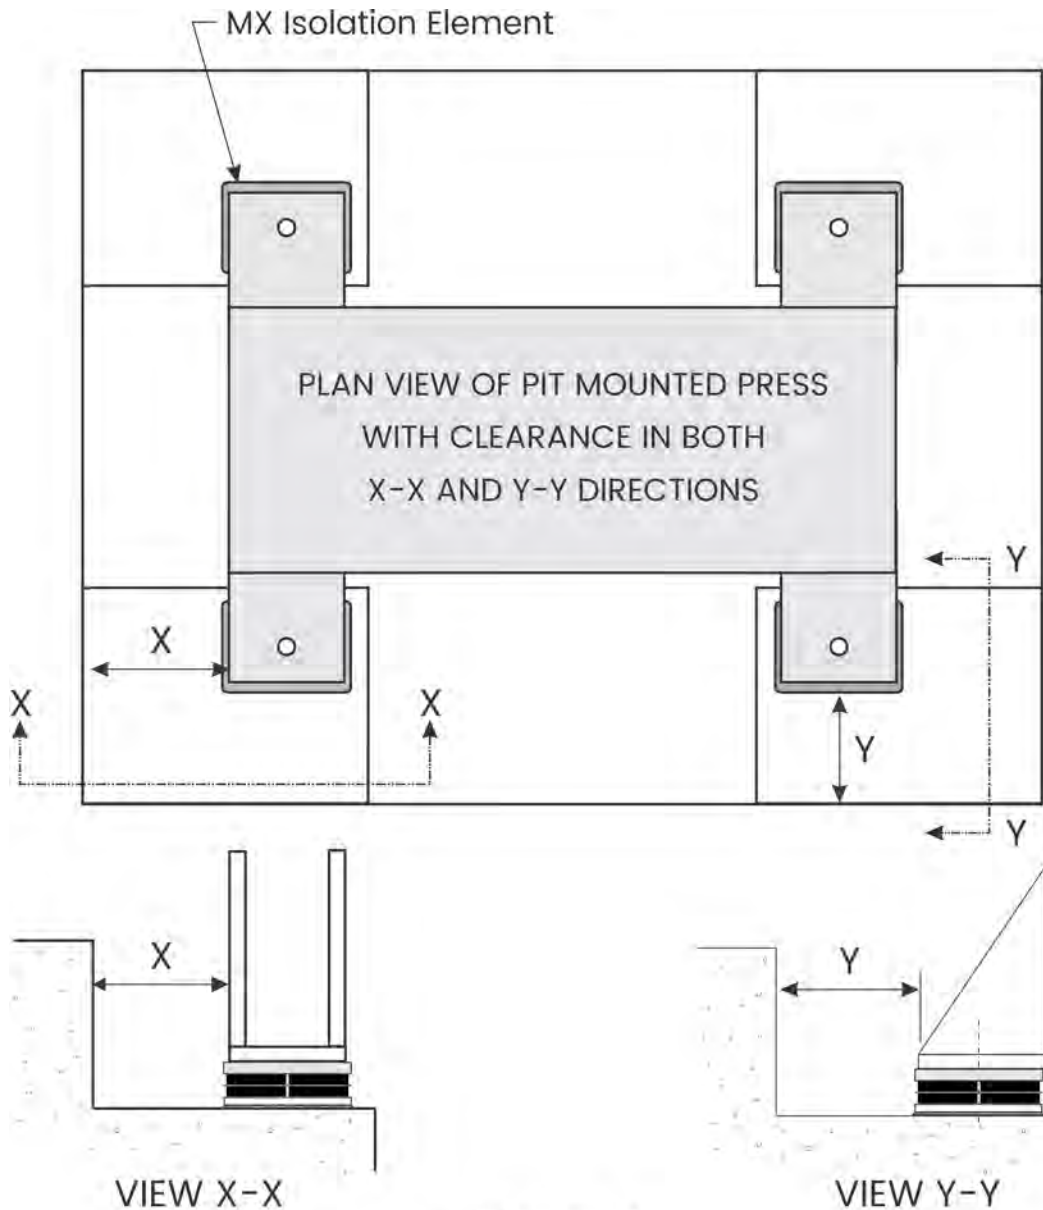

Figure 4
8. Clearance should be provided in either the X or Y direction to allow for the installation or removal of the isolation elements. See Figure 4. Dimensions X and Y should be slightly greater than the corresponding isolation element dimension. *For example*, dimension X should be greater than the length of the isolation element or dimension Y should be greater than the width of the isolation element. Refer to the Isolation element Specification Sheet for dimensions.